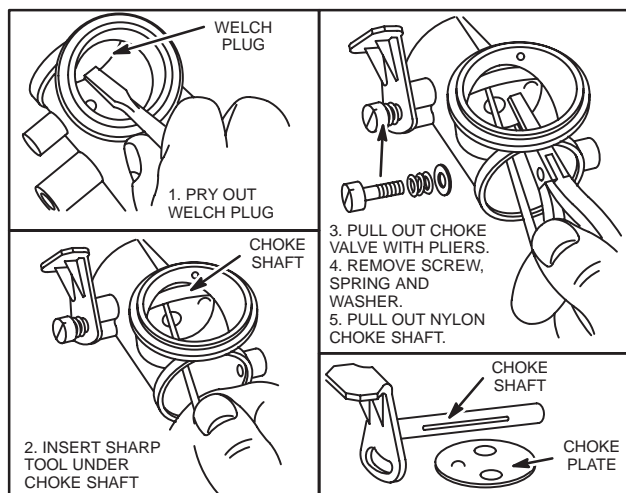

Fig. 261 – NYLON CHOKE SHAFT
3. Remove choke plate. On carburetors with nylon choke shaft, remove choke plate as shown in Fig. 261.